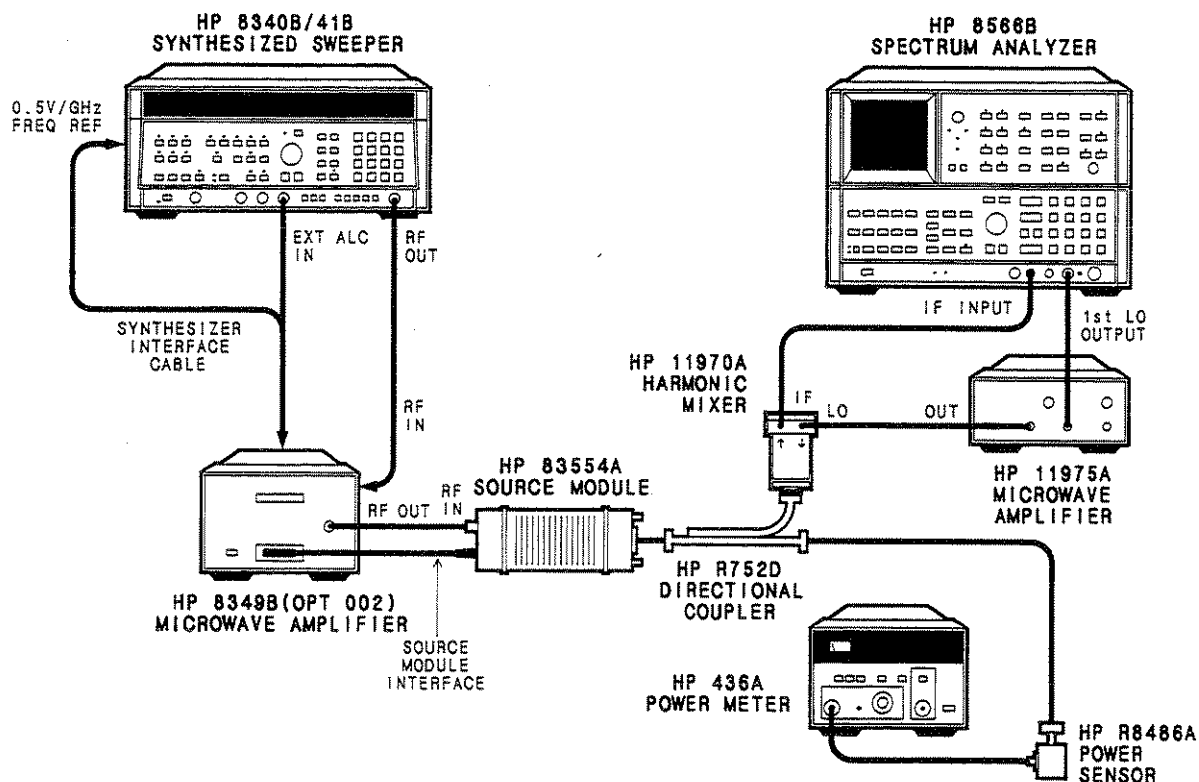

Figure 2-9. Spurious Signals Test Setup
The RF output signal from the HP 8340B/41B/83554A system is tuned from 26.5 to 40.0 GHz and is displayed on a spectrum analyzer to verify that any harmonic spurious signals are at or below their specified levels. The test configuration in Figure 2-9 uses an external harmonic mixer to extend the frequency range of the spectrum analyzer. When this technique is used, the response is not pre-selected and multiple signals are displayed. Each response is examined not only for power relative to the fundamental frequency but whether or not it is a true in-band spurious signal by using the spectrum analyzer's signal identification function.
1. Connect the equipment as shown in Figure 2-9.
Because the test configuration in Figure 2-9 specifies that the external mixer be connected to the coupled arm of a 20 dB directional coupler, the coupled power must also be taken into account when calculating reference level offset. The new equation is as follows: